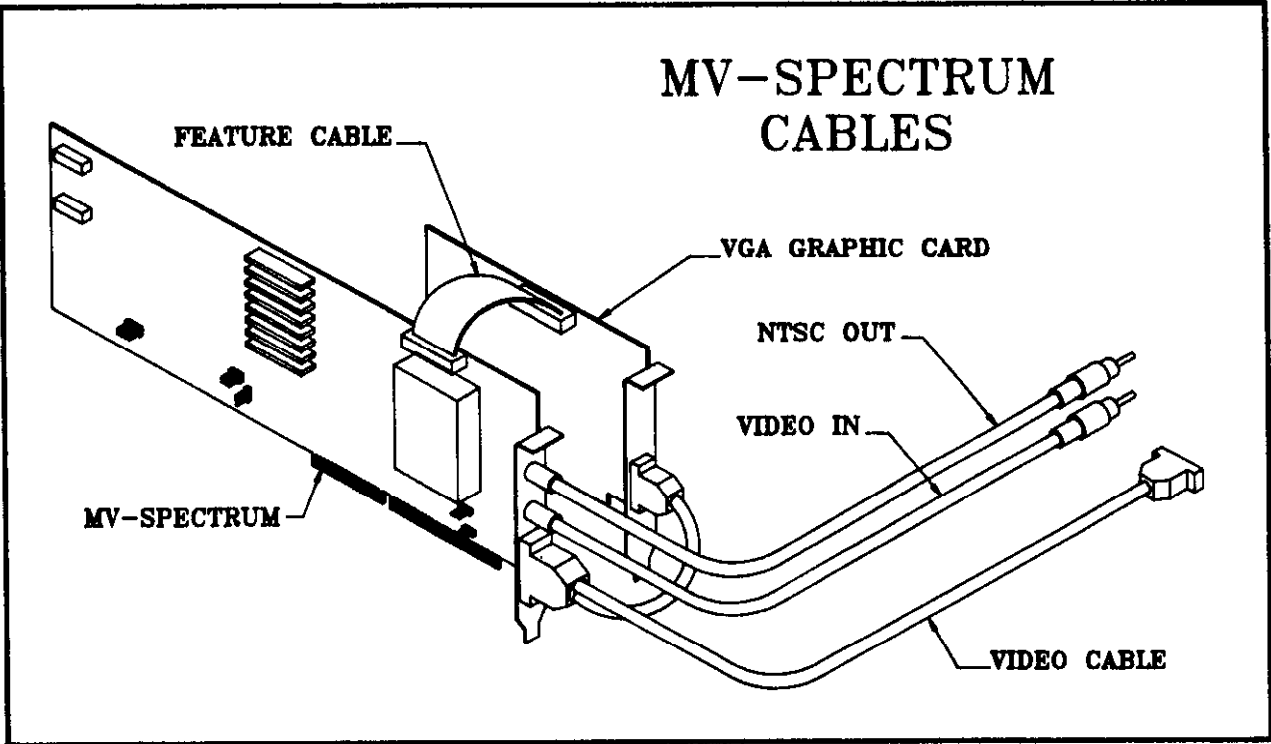

Figure 5 Connecting the Cables.
2. Using the Feature Cable, connect the SPECTRUM adapter to the VGA adapter, see Figure 5.